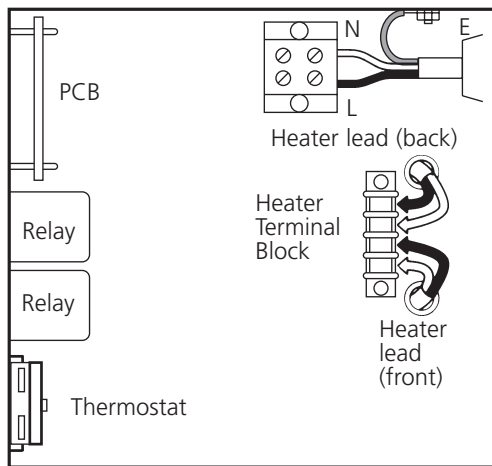

Fig. 3c
24. Thread the four heater connectors through the holes into the electrical control compartment and connect to the heater terminal block. Brown to Brown, Blue to Blue (Fig. 3c).